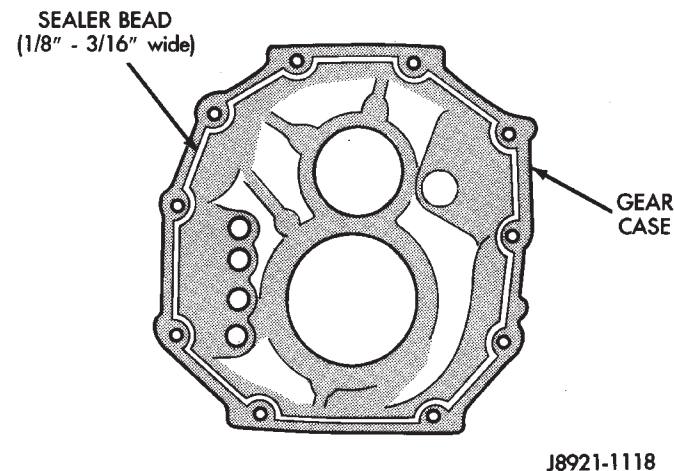

Fig. 111 Applying Sealer To Gear Case
(1) Dismount intermediate plate and gear assemblies from vise.
(2) Clean mating surfaces of intermediate plate and transmission gear case with wax and grease remover. Then wipe dry with a clean cloth.
(3) Apply 3 mm (1/8 in.) wide bead of Mopar Gasket Maker, or Loctite 518 to mating surface of gear case. Keep sealer bead inside bolt holes as shown (Fig. 111).